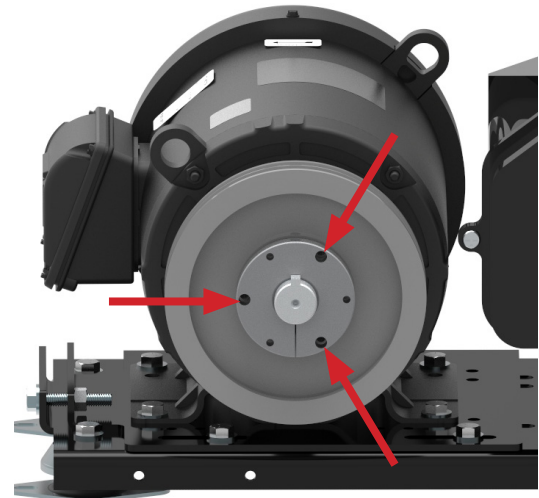
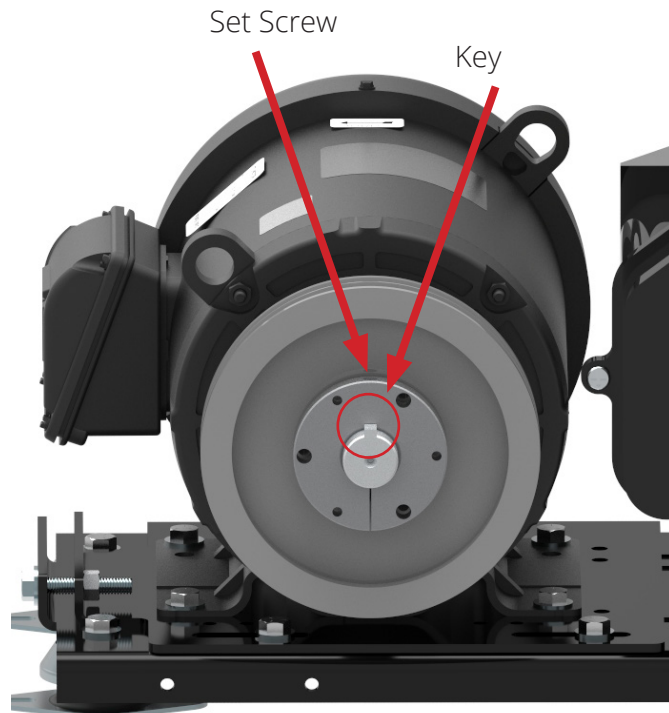
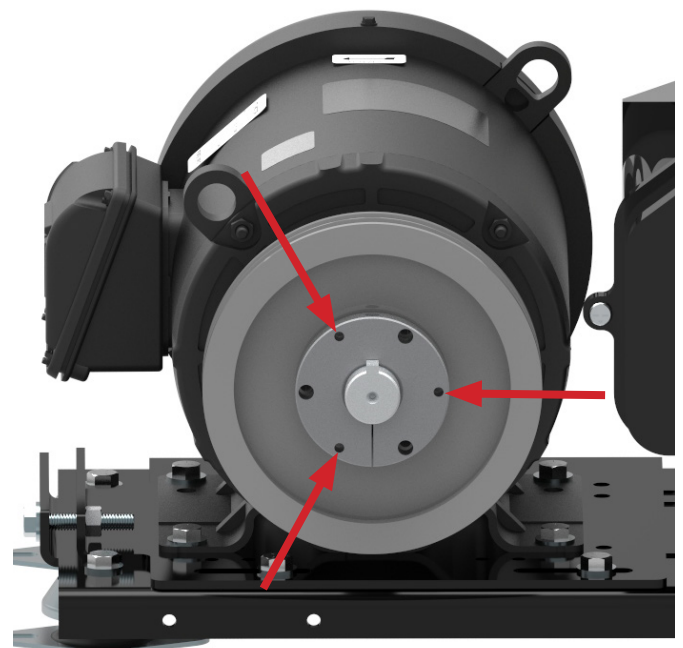

Figure 63: Pull-Up Bolts
Figure 62
Figure 64: Threaded Jack-Screw Holes
3. To remove the pulley, remove the set screw over the key from the bushing (see Figure 62). Next, remove the 3 pull-up bolts from the bushing (see Figure 63). Re-install them into the threaded jack-screw holes of the bushing (see Figure 64) and tighten them evenly until the bushing has loosened from the shaft. Slide the pulley and bushing off of the motor shaft. Retain all of these parts for re-use.